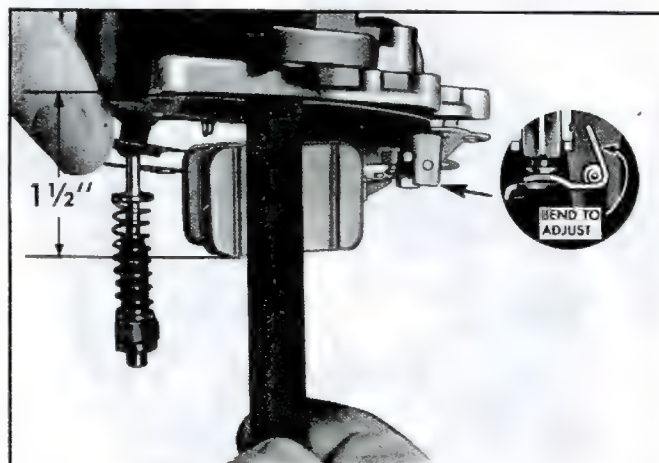

Fig. 12—Measuring Float Drop
- Hold bowl cover in an upright position and measure the distance from the gasket to the bottom of the float (fig. 12). This dimension should be $1-1/2$ ". Bend the tang at the end of the float